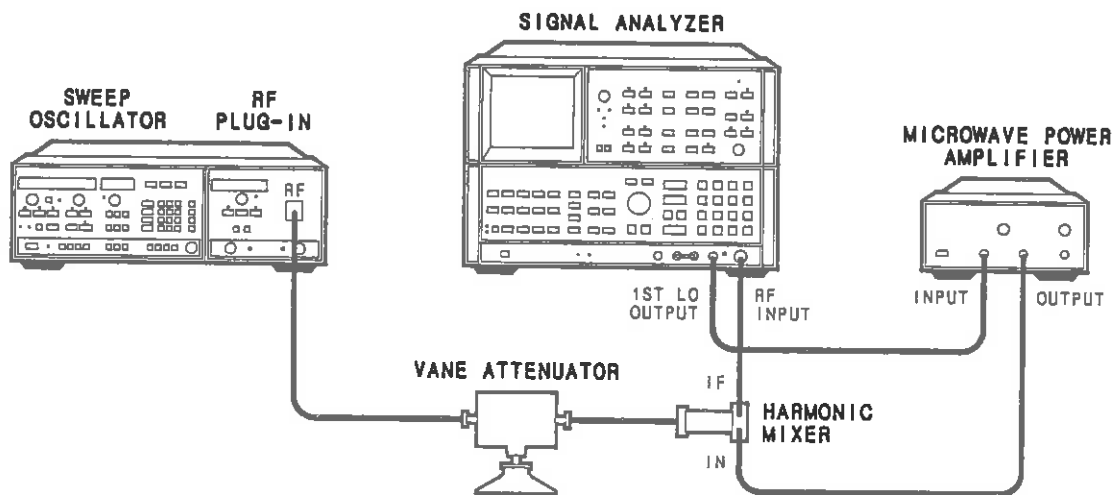

Figure 5-3. Frequency Accuracy Adjustment Setup
1. Connect the equipment as shown in figure 5-3. Set the vane attenuator to 20 dB.